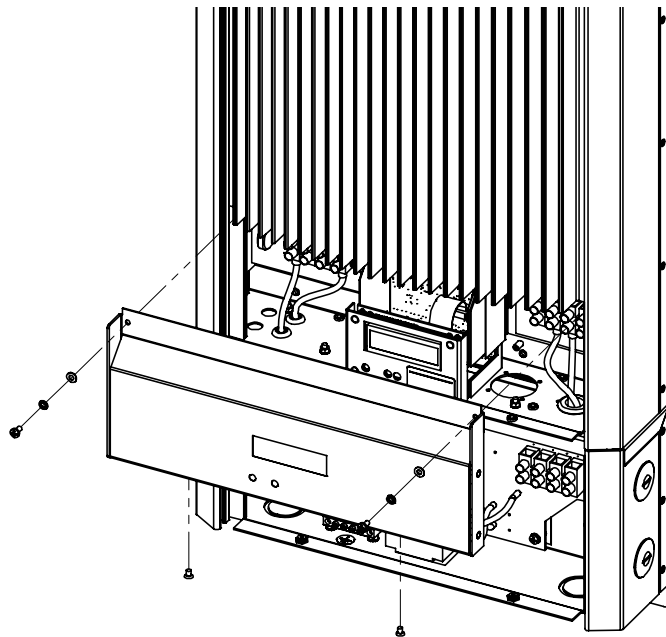

Figure 6-2 Display Front Panel Assembly
2. Remove the display front panel cover (see Figure 6-2), located below the heat sink. Use a Phillips screwdriver to remove the two external panhead screws and washers and the two screws along the bottom edge of the cover.